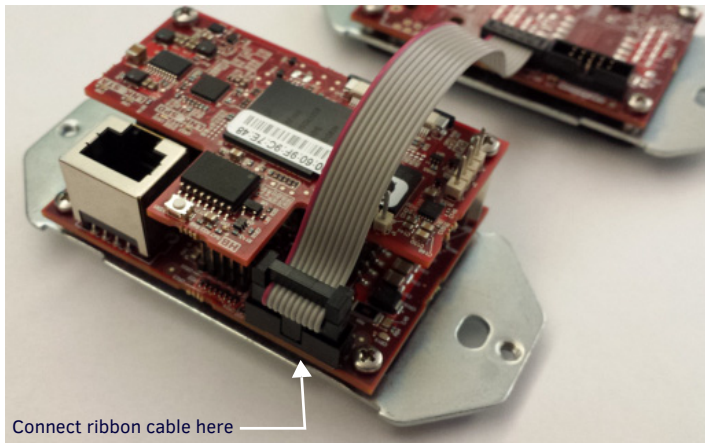

FIG. 1 DAISY-CHAIN CONNECTION BETWEEN THE MET-7X AND AN ETHERNET KEYPAD
2. Connect the ribbon cable on the expansion keypad to the expansion cable connector on the rear of the Ethernet keypad (see FIG. 1).